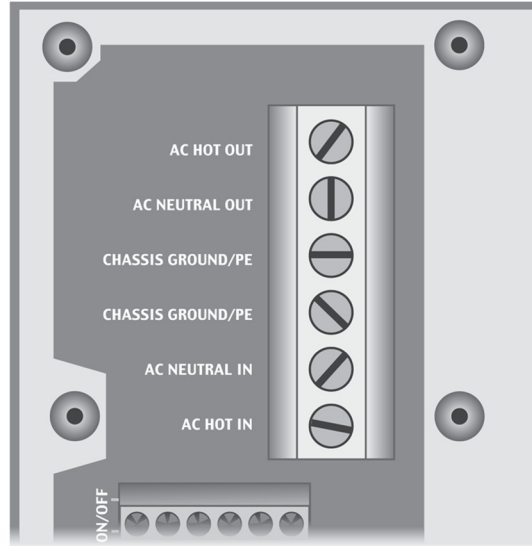

Figure 35 AC Terminals
4. Using a DVM, verify 120 Vac (or appropriate voltage) between the **AC HOT OUT** and **AC NEUTRAL OUT** terminals. (See Figure 35.) The inverter is working correctly if the AC output reads within 10% of 120 Vac or the programmed output voltage.